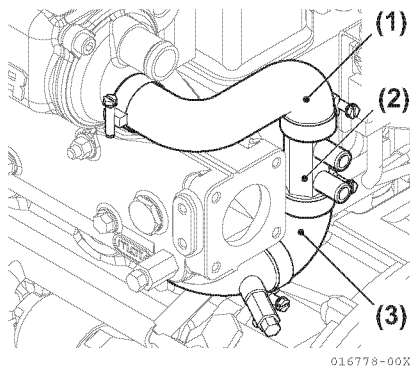
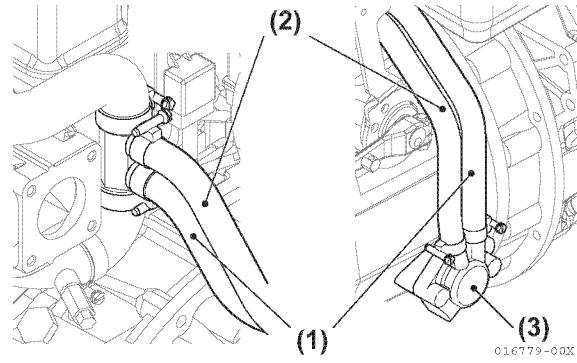

Figure 5-182
Figure 5-183
- When 4JH4AE is coupled with KM4A1, seawater pipes for KM4A1 marine gear cooler are shown in (Figure 5-182) and (Figure 5-183).